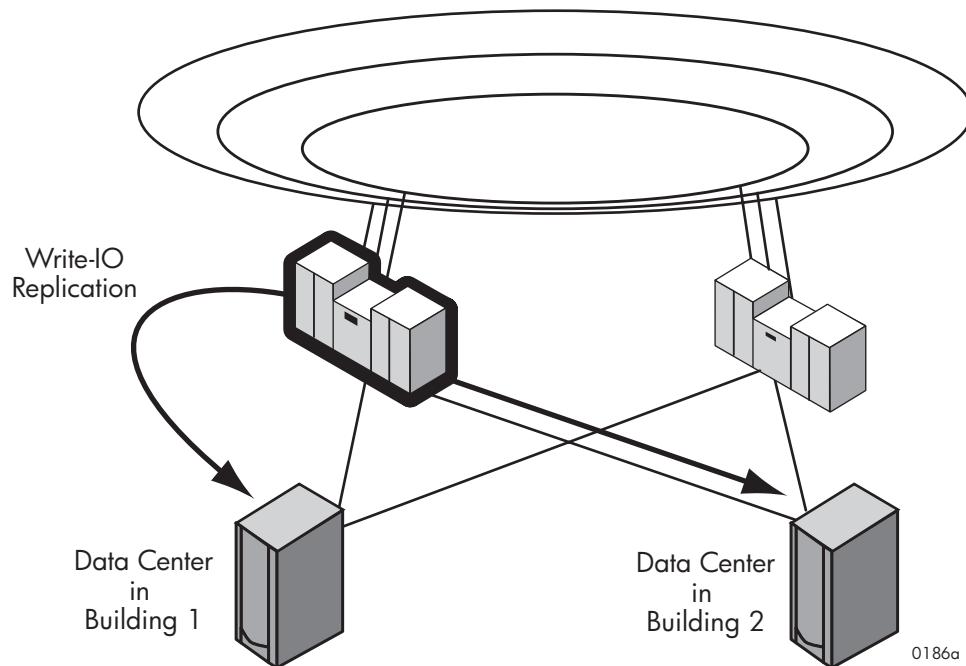

Figure 2 Physical replication using FC
Disaster-tolerant architectures using Fibre Channel (FC) networks can be achieved by *physical replication*. Figure 2 shows an example of physical replication using FC.